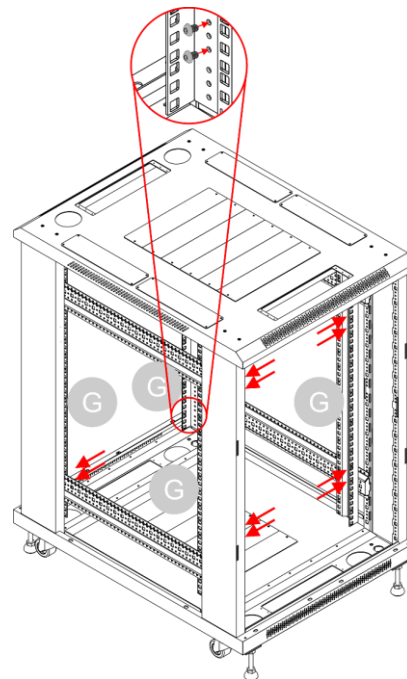

Fig. 32
- 16) Attach the **vertical brackets (G)** to the **horizontal brackets (H)**. Use 2 **screws (O)** per corner on the 4 top corners of the cabinet and 2 **screws (O)** per corner on the 4 bottom corners of the cabinet, as shown in Fig. 32.